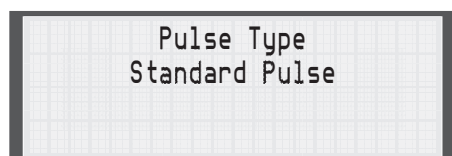

Fig. 5.10
2. Press the Pulse Type key and then use the Arrow keys to set the waveform you want to use (**Fig. 5.10**). If unsure, set the pulse type to standard pulse. Press the Enter key.